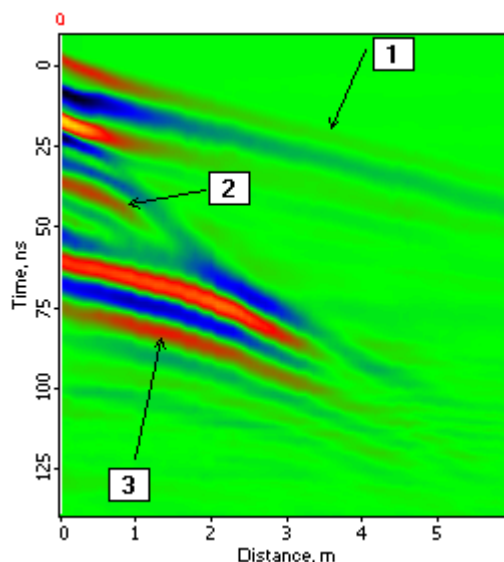

Fig. 16.2. Typical data profile acquired by CDP method.
- Hereinafter the CDP result graph is called as Hodograph and looks like on Fig. 16.2;
Three signals are clearly visible on the profile above (Fig. 16.2):
5. Select the air wave position which is fully determined by a single point, because the electromagnetic wave velocity in the air is known and remains constant (30 cm/ns). For that, press button **Air** in section **Enter layer** of the dialog box and select the air wave of the profile data. While the mouse is moved above the profile it changes the cursor to crosshair that should be pointed on the profile air wave (Fig. 16.2). Click the left mouse button to select it. A cross will appear in this point. It's recommended to select air wave as far as possible from the profile beginning for more accurate calculations. The tool automatically calculates the distance of the placed cross. The calculated **Offset** (in meters) pop-ups in a window.